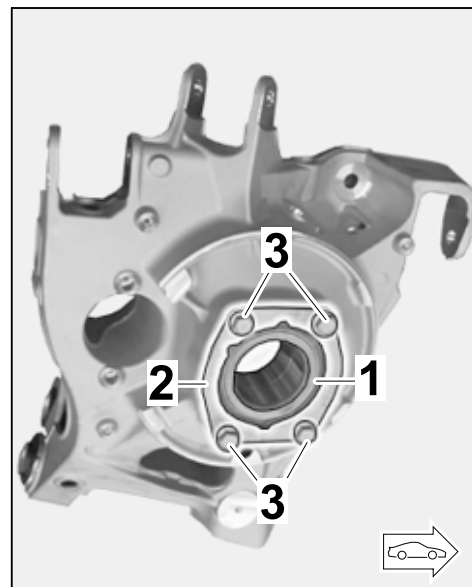

Figure 17
- 2.3.7 Remove cover on angular-contact ball bearing (wheel bearing) from the old wheel carrier and fit it on the new wheel carrier (at the left/right ⇒ *Figure 17*) with the inscription facing outwards.